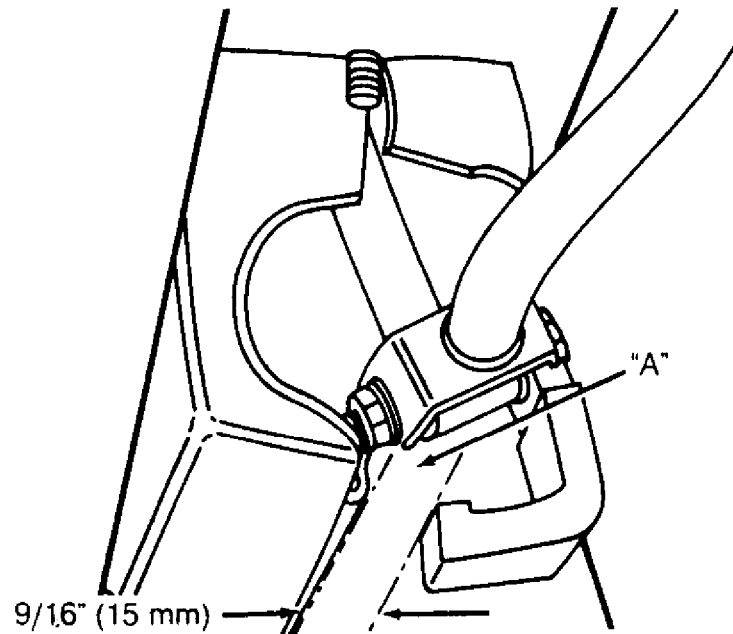

Fig. 2: Adjusting Shift Rod End (Cabriolet)
2) Adjust shift rod end so distance "A" is 9/16" (14 mm). See Fig. 2. Tighten shift rod clamp to 14 ft. lbs (19 N.m). If shift linkage is spongy or jams after adjustment, change distance "A" to 1/2" (13 mm). If shift linkage will not stay in adjustment, install new clamp bolt and lock nut.